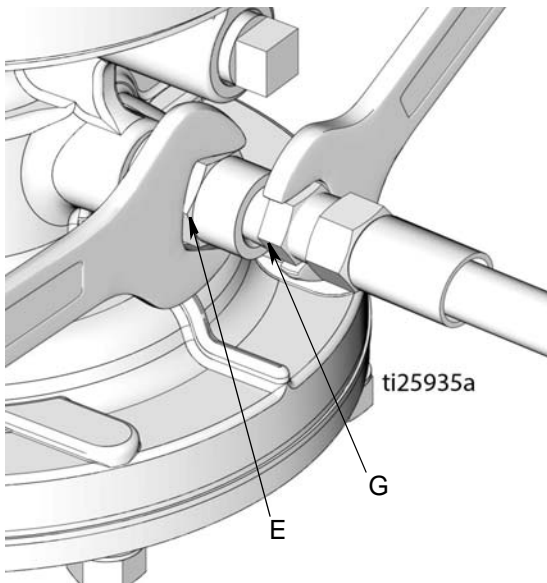

FIG. 7
2. **Relieve pressure** in system using two wrenches working in opposite directions on the pump outlet (E) and lubrication line fitting (G) to **slowly loosen** the fitting until it is loose and no more lubricant or air is leaking out of the fitting (FIG. 7).